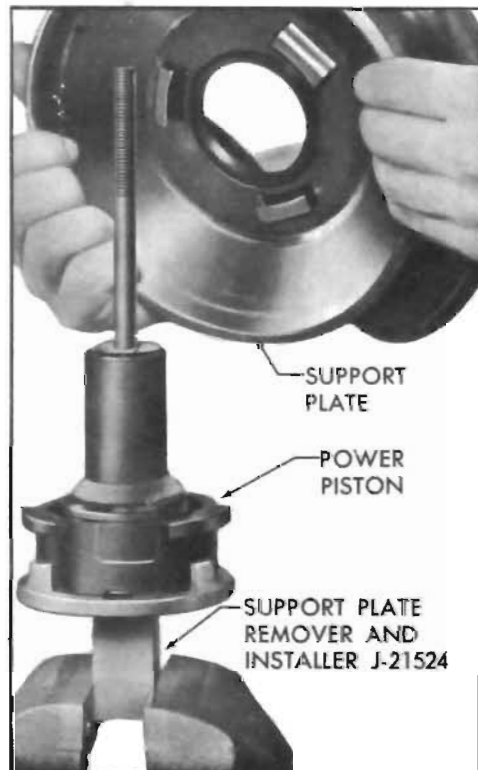

Figure 9-25—Removing Support Plate
5. Press down on the support plate and rotate counterclockwise until the support plate separates from the power piston. See Figure 9-25.